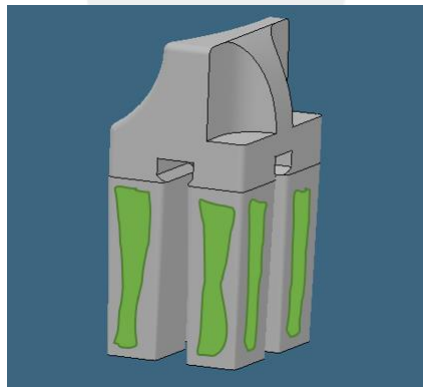

Figure 6 – Also apply adhesive to the 2 other sides (not shown in this image)
6. Apply the adhesive to all outer side surfaces of the bracket legs (Figure 6).